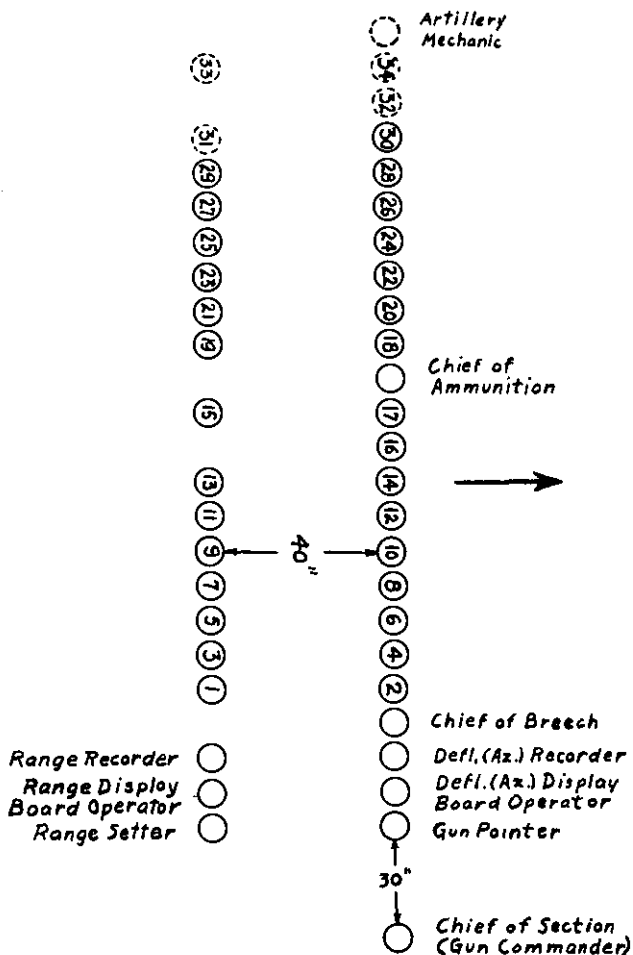

FIGURE 1.—Formation of gun section.
■ 6. **FORMATION.**—Each section assembles in two ranks with 4 inches between files and 40 inches between ranks. The post of the chief of section (gun commander) is in the front rank 1 pace to the right of his section. The artillery mechanics, who are members of the maintenance section, normally form with the firing section and take post in the front rank on the left of the first and last gun sections. (See fig. 1.)